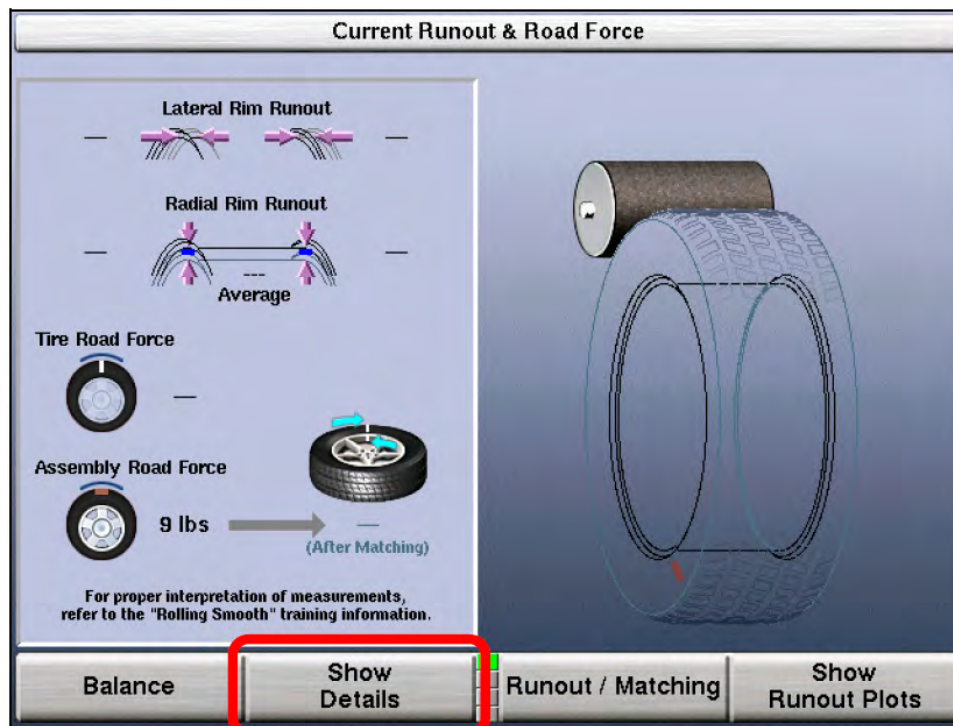

Figure 2
b. From the "Current Runout & Road Force" screen below, select "Show Details" (see Figure 2).